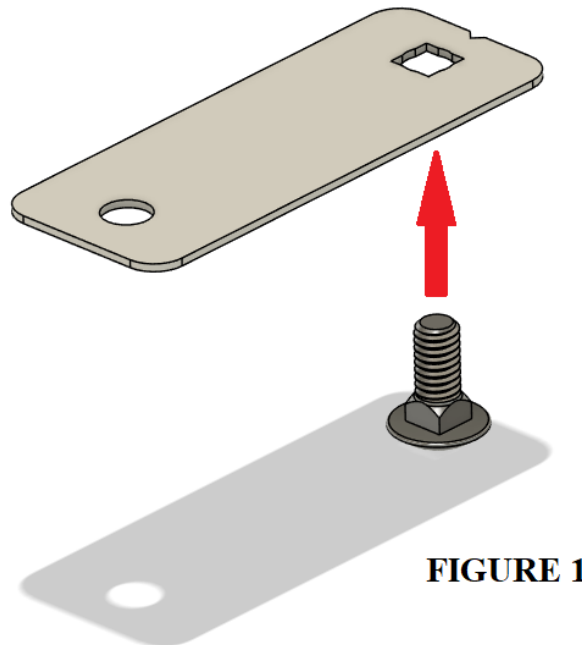

FIGURE 1
- Prepare the Cargo Trunk by installing the (4) #1 Mounting Brackets using the (4) #2 Wing Knob Nuts, (4) #3 Carriage Bolts, and (4) #4 Flat Washers.
- Begin by taking one #3 Carriage Bolt and placing the bolt through the square hole in one #1 Mounting Bracket. **(See Figure 1)**